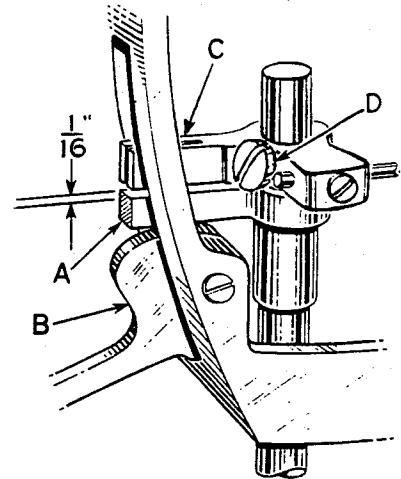

Fig. 19
The presser bar connection (A, Fig. 19) should be set so that it bears against the hand lifter (B) at all times.
When locating the presser bar guide (C) Fig. 19) the presser foot must rest directly against the throat plate with the feed dog in its lowest position.